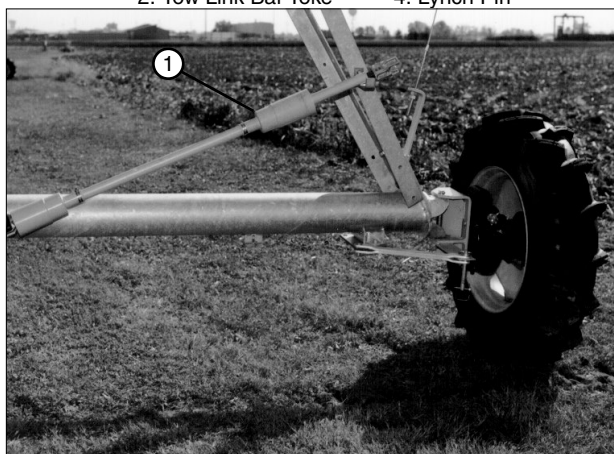

Figure 32-3 1. Towing Position Shown
10. Lower the drive unit and remove the jack. The tire is now in the tow position. See figure 32-3.